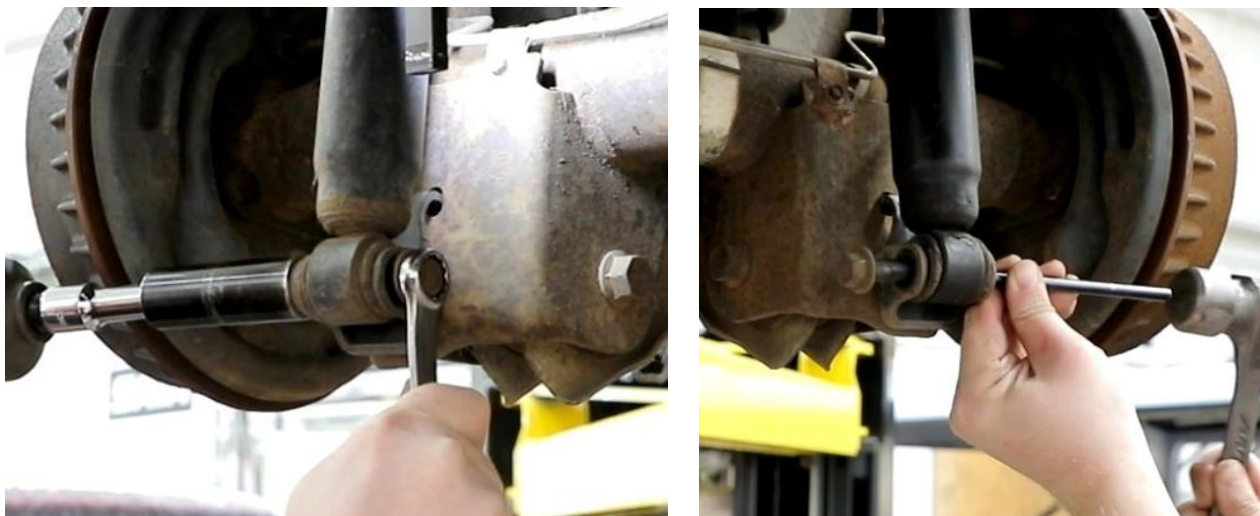

Figure 9 - Remove Lower Shock Bolts
- Support the rear axle under the center section and remove the lower shock bolts. Lower the rear axle to allow the rear axle to drop down (Figure 9).